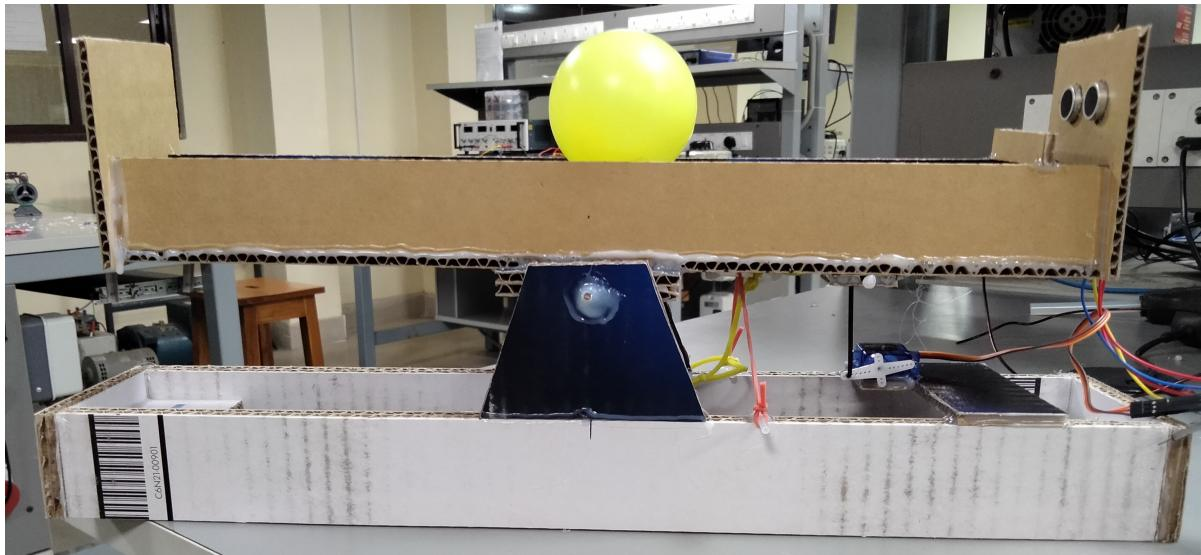

Figure 1: Front view of ball-balance system (balanced position)
Objectives: A ball is positioned on a beam, as shown in Figure 1, where it is free to roll along the length of the beam with one degree of freedom. At one end of the beam, a lever arm
Physical setup: In order to make the physical ball beam system, you will be using cardboard. Cardboards should be glued together using the glue gun provided to you. The dimensions of the ball beam set-up in Figure 1 are as given in the Figure 3 below:
2. Place the servo-motor such a way that the shaft connected to the top beam is almost at right-angles to ground when the beam is at balanced position. This is visible in Figure 1.